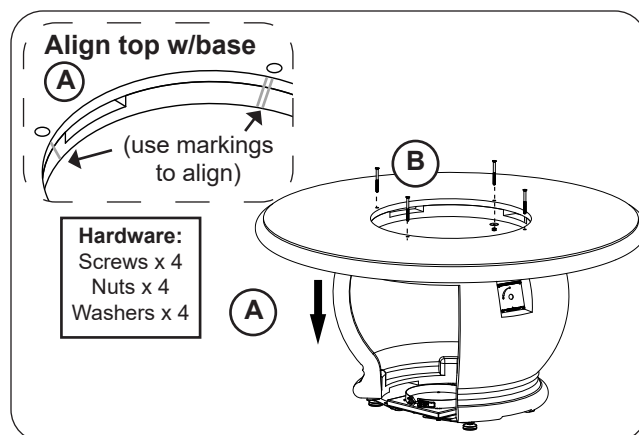

Fig. 26-2 Place top and fasten
3. **Carefully** place the top on the unit, ensuring that the markings along its inner ring align with those found on the base (see Fig. 26-2, A).
4. Use a flathead screwdriver and the supplied bolts (4), nuts (4), and washers (4) to fasten the top to the base as shown in Fig. 26-2, B.